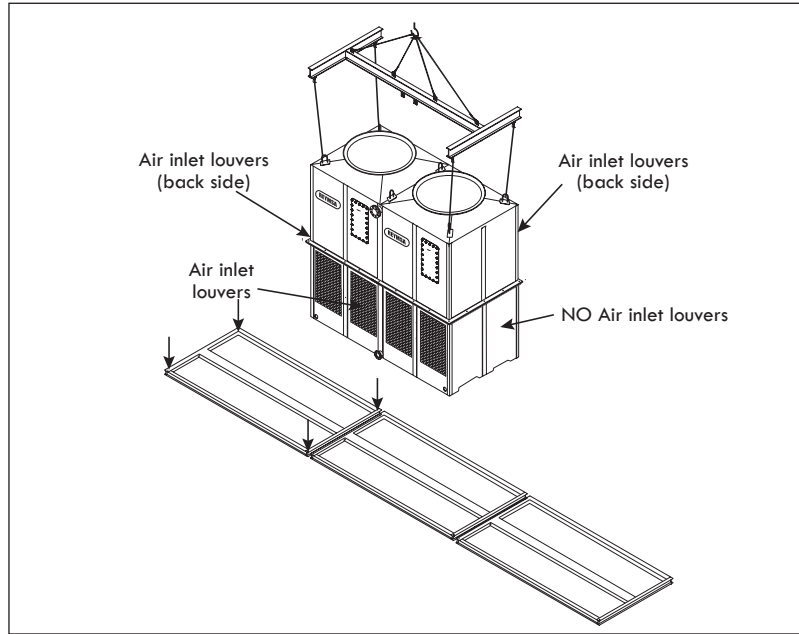

Figure A-67: First module lifting for a short side arrangement (RTM-B-S)
- A. Lift the first module using a crane and a spreader bar and place it on top of the isolation pad and the steel base structure. Secure it with the stainless steel nut and bolts sets (supplied by others) as shown on Figure A-67.